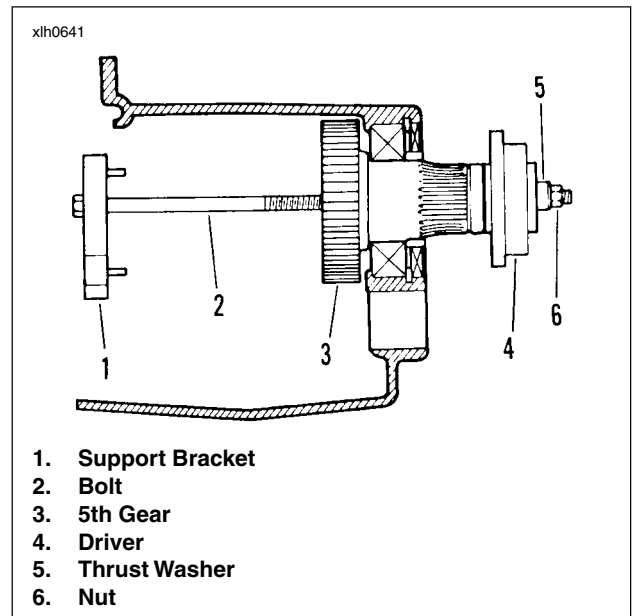

Figure 6-49. Removing Main Drive Gear
4. See Figure 6-49. Insert bolt (2) through support bracket (1) and 5th gear (3).